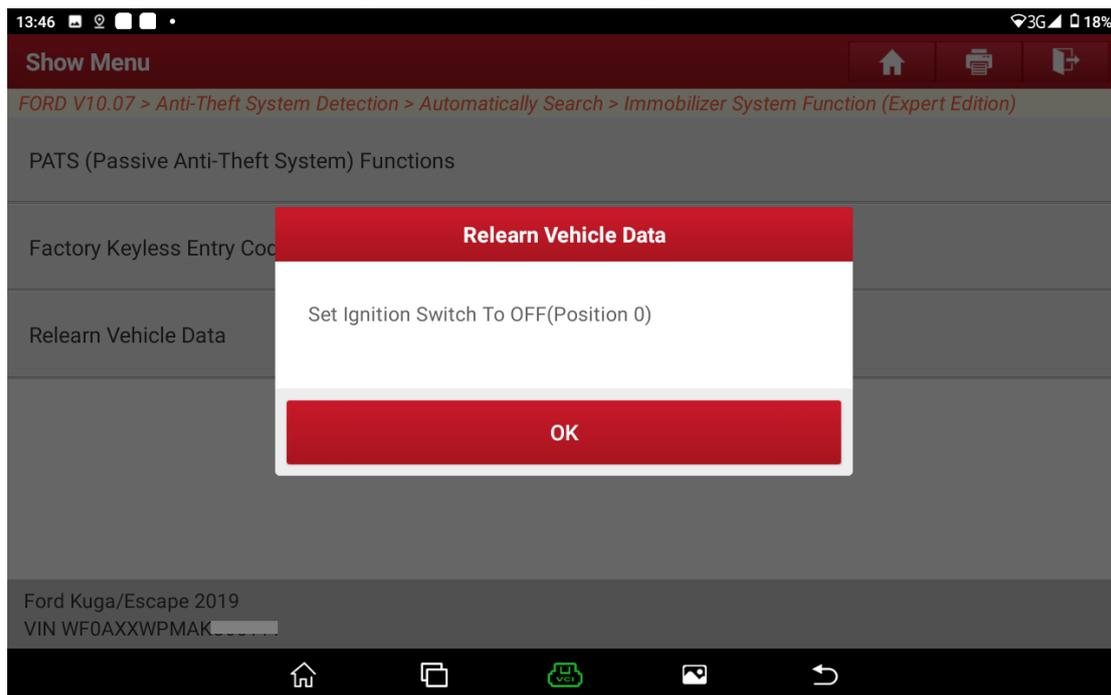

Figure 23
21. Prompt to turn off the ignition switch. See Figure 23.